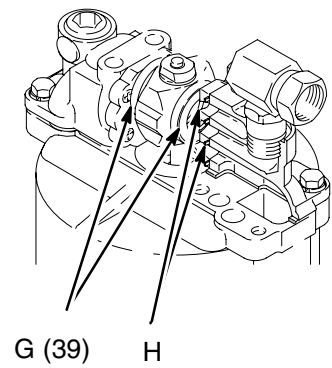

Fig. 3
To restart a stalled motor, close the bleed-type master air valve to bleed off all trapped air pressure. Screw the lift ring (16) out of the detent housing (36) and use a screwdriver to push the valve housing (29) down. See Fig. 3.
See Fig. 3. Shut off the air supply and disconnect the hose. Screw the inlet union (49) out of the air manifold (43). Remove the eight screws (6), the shield (35), and the grommet (42), then screw the inlet union back into the manifold. Connect the air hose and turn on the air. Stall the pump on both the up and down stroke as indicated in the **Check Chart** and adjust the air regulator to 10–15 psi (.07–0.1 MPa, 0.7–1 bar). Then use the checking methods listed in the **Check Chart** to find where air is leaking.
Check Chart (See Fig. 3)